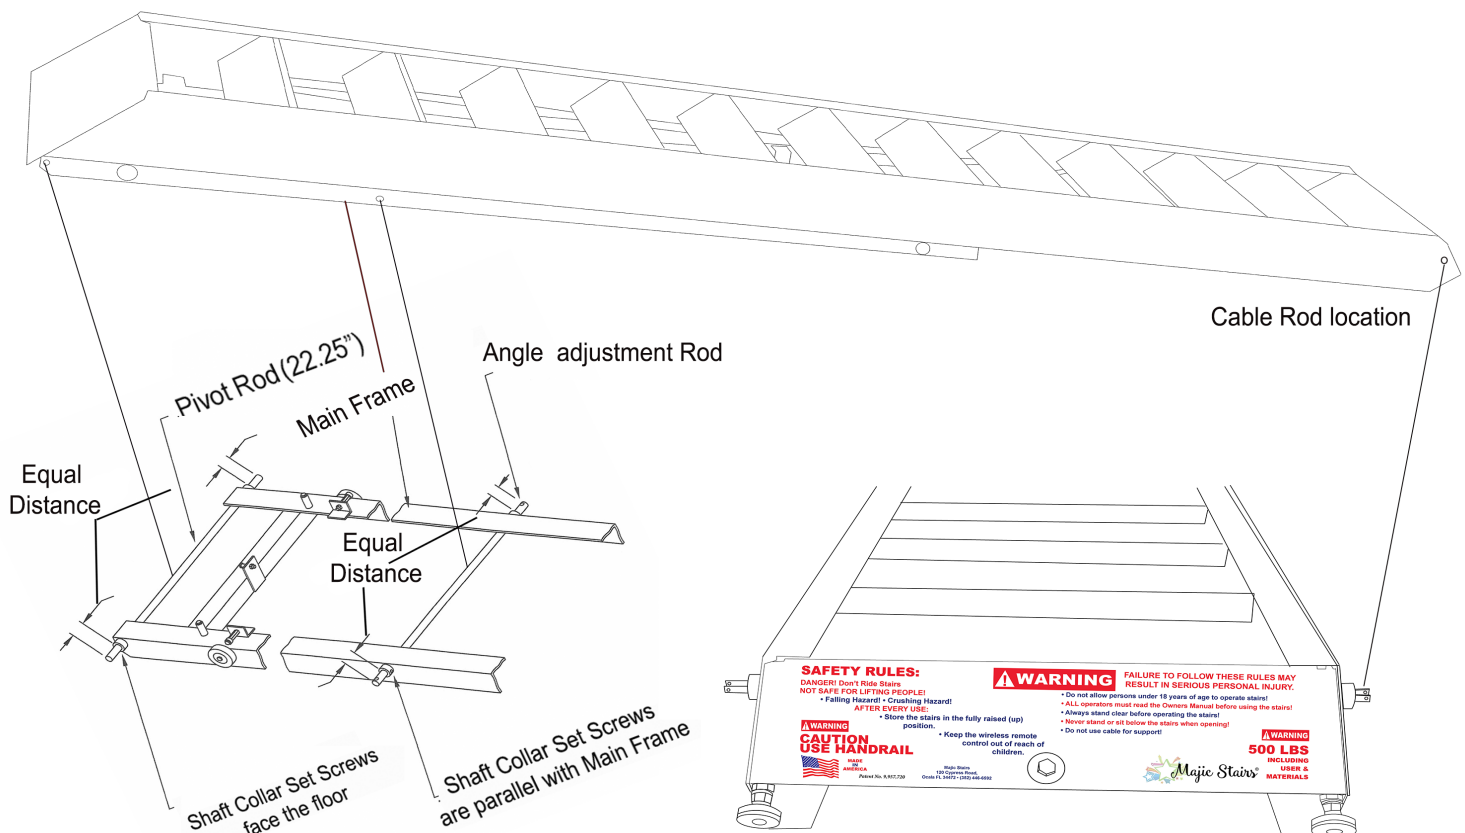

Figure 7
Locate the PIVOT rod, (The rod with (1) hole on ONE end. See figure 7) MAKE SURE THE WIDTH OF THE PIVOT ROD FITS BETWEEN THE HANGING BRACKETS.